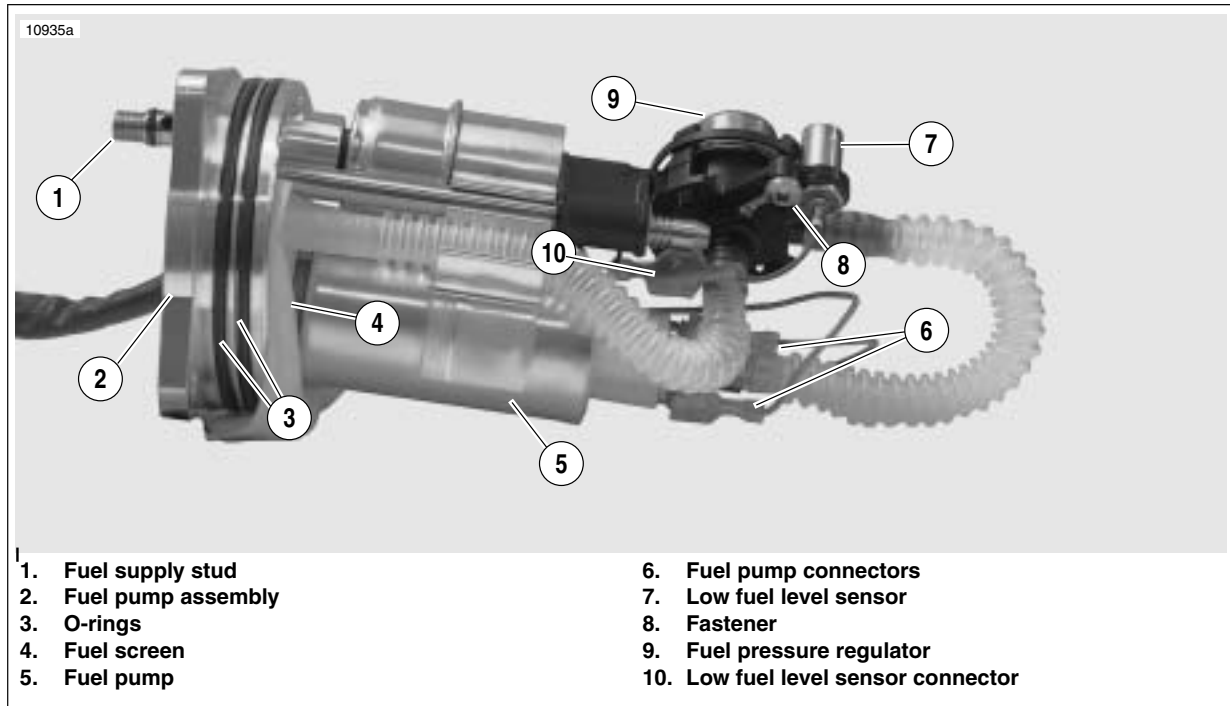
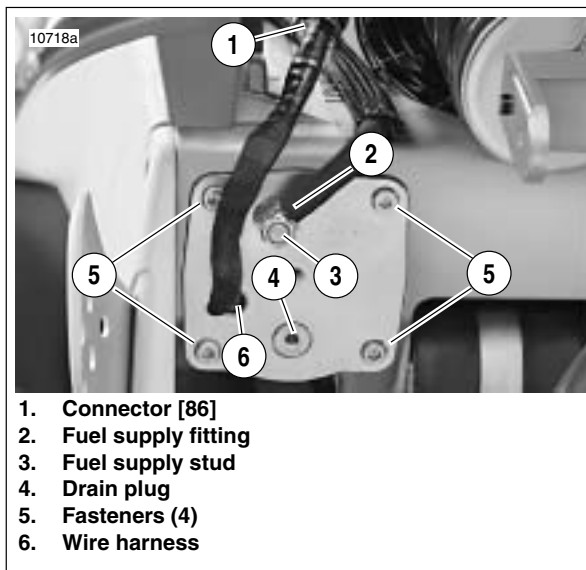

Figure 4-88. Fuel Pump Assembly
Figure 4-94. Fuel Pump Location
2. See Figure 4-88. Disconnect low fuel level sensor connector (10).
3. Remove screw (8) securing low fuel level sensor (7) in place.
5. Install screw (8) securing sensor and tighten to 18-22 **in-lbs** (2.0-2.5 Nm).
6. Attach low fuel level sensor wire connector (10).
1. See Figure 4-88. Replace o-rings (3). Lubricate **new** o-rings with **clean** engine oil.
2. Install **new** o-rings on fuel supply stud (2). Larger o-ring is located in groove closer to fuel pump.
3. See Figure 4-94. Insert fuel pump into frame until resistance is felt.
4. Insert four screws (5) through fuel pump and into frame.